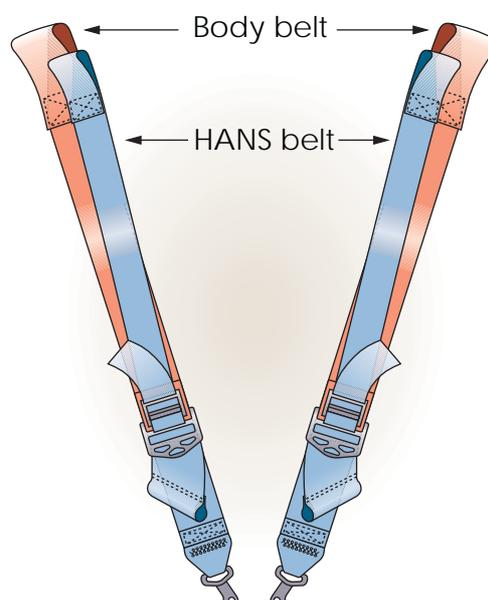

Figure 5. Double shoulder belt system
**2.5** Double shoulder belt system: a safety harness system with two straps on each shoulder is homologated by the FIA and may be used. It provides one **body-belt** that is positioned on the driver's shoulders (beneath the HANS®) and a second **HANS®-belt** that is positioned on the HANS® yokes (as for standard HANS® use). It is important that the HANS®-belt is at least as tight as the body-belt. A drawing of the double belt system is shown in Figure 5.